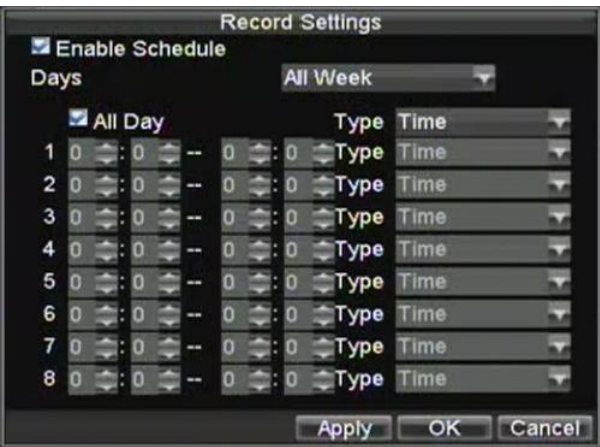

Figure 7. Edit Schedule Settings
12. Click the Edit button. This will open up a new recording schedule, shown in Figure 7.